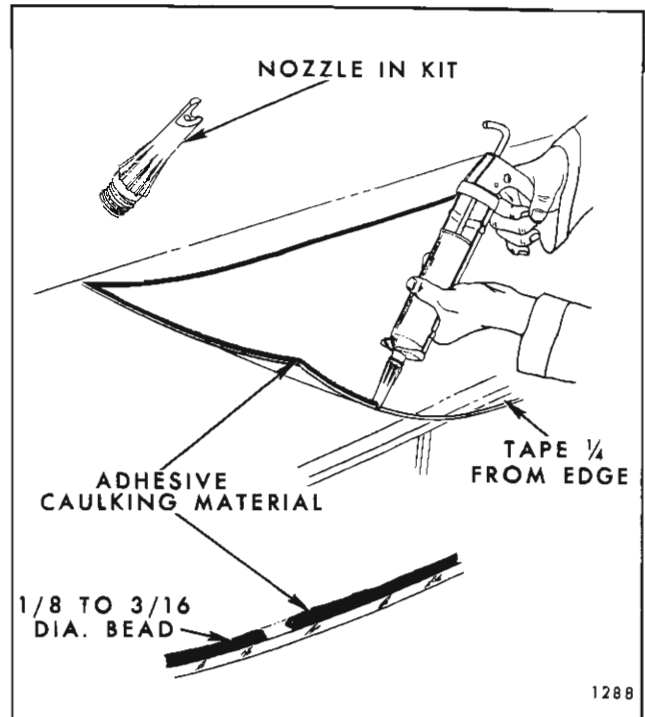

Fig. 2C10—Adhesive Caulking Material Application - Short Method
2. Apply 2" wide, masking tape across front of instrument panel, with the front edge of tape lined up with break line of instrument panel. Apply 2" wide masking tape to both inside windshield pillars. Apply masking tape across front edge of headlining. (Fig. 2C6). The application of masking tape will assist in clean-up after the glass is installed.
3. Apply 1" wide masking tape to inside of windshield glass $1/4''$ inboard from edge of glass, first across the top, each side, then the bottom. (Fig. 2C7).
4. Cement four flat type rubber spacers (#4898472 or equivalent) to upper windshield pinchweld flange, one each side 4" inboard from windshield pillar and one each side $16-1/2''$ inboard from windshield pillar at locations "D", View "A" (Fig. 2C8).
5. Cement two rubber spacers (#4404196 or equivalent) to lower rabbet of windshield opening $6-1/2''$ inboard from windshield pillars at locations "B", View "A" (Fig. 2C8).
6. Cement three rubber spacers (#4421823 or equivalent) to the lower windshield flange 4" inboard from windshield pillars each side and one in center at locations "C", View "A" (Fig. 2C8).